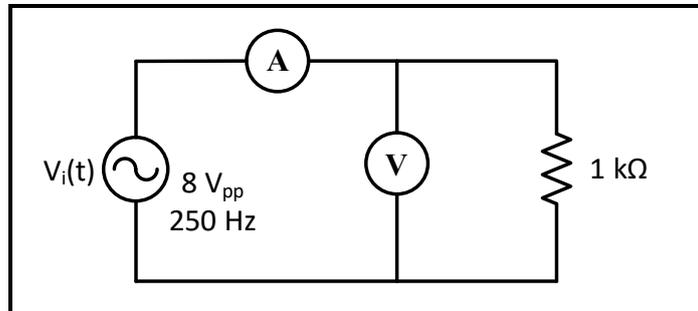

Figure 8.7
1. For the circuits shown in Figures 8.7 - 8.10 **calculate the magnitude** of the impedances Z_R , Z_C , Z_L , and Z_{RC} respectively, for the following frequencies: 250, 500, 1000 and 2000 Hz.
1. Connect the circuit in Figure 8.7, set V_{in} to sinusoidal voltage at $8 V_{pp}$, $f = 250$ Hz